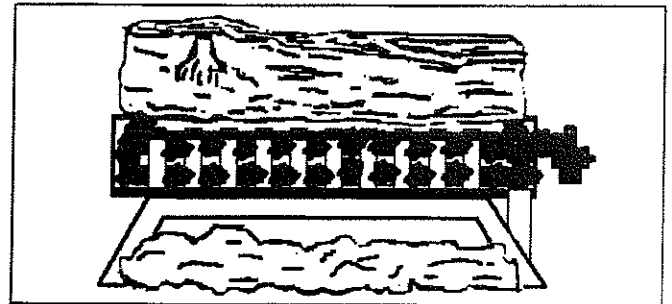

Figure 7. Coal and Ember placement
- E. Place the Ceramic Fiber Coals in the top burner pan. Concentrating the majority of coals to the center of burner pan. (See Figure 7)
NOTE: Only glowing embers are used on bottom burner. (Burner 3) (See Figure 7)